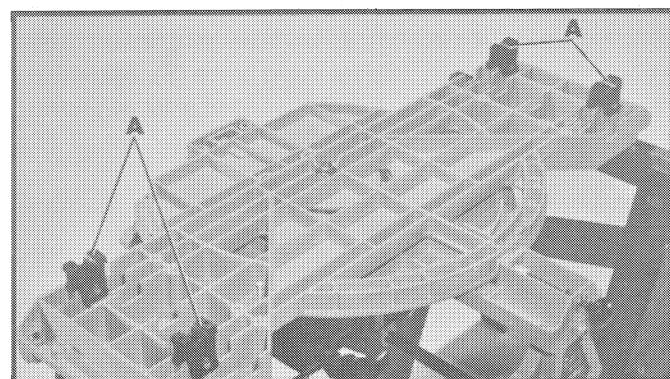

Fig. 4
4. Fig. 4, illustrates the four outside leg brackets (A) assembled to the bottom of the saw.